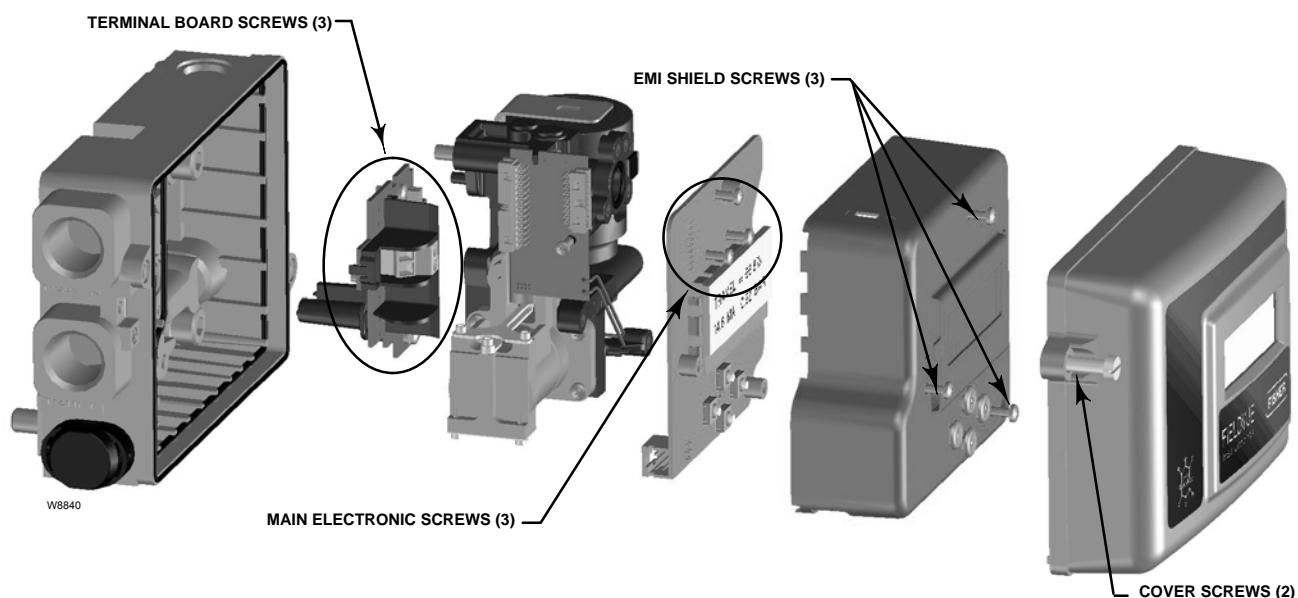

Figure 6-1. FIELDVUE DVC2000 Exploded View
2. Remove the instrument cover (refer to figure 6-1).
2. Remove three screws that hold the EMI shield and remove the shield (refer to figure 6-1).
3. Remove the three screws holding the electronics board to the mounting frame (refer to figure 6-1).
9. Remove the three screws holding the terminal board to the housing (refer to figure 6-1).